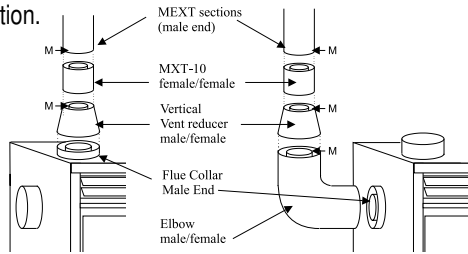

Figure 19. Reduced Vertical venting application from 5"/8" to 4"/7".
Figure 10. Straight, vertical venting. When the vent run is not reduced use a PEL-90F/Felbow, which is connected directly to the fireplace flue collar. In this case, the PXT-10 adaptor is not needed. * If reducing to 4"/7" venting see figure 19.
* If reducing to 4"/7" venting see figure 19.